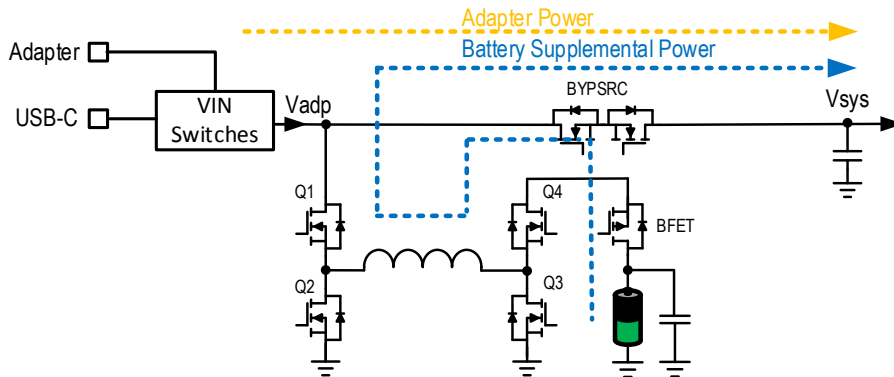

Figure 6. Renesas HPBB Buck-Boost Charger in 'Reverse Turbo Boost' Mode
- ii. Input power < system power: In this case, the battery needs to be discharged, and the buck-boost charge is operating in reverse mode to pump energy from the battery to the Vadp side. The battery power combines with the input power to support the system's power. This mode is also called 'Reverse Turbo-Boost' mode, and Figure 6 shows its power path in HPBB mode.